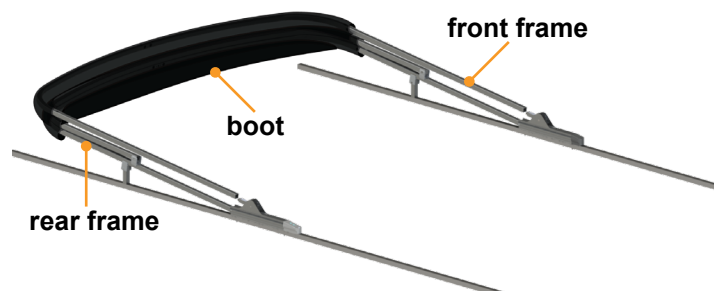

Fig.81
9. Fully collapse the bimini frame by placing the front frame on top of the rear frame (Fig.81).
11. Secure the remainder of the front frame in-place with the protective storage boot (Fig.81), zip ties, hook-and-loop strips or with some other type of cordage.